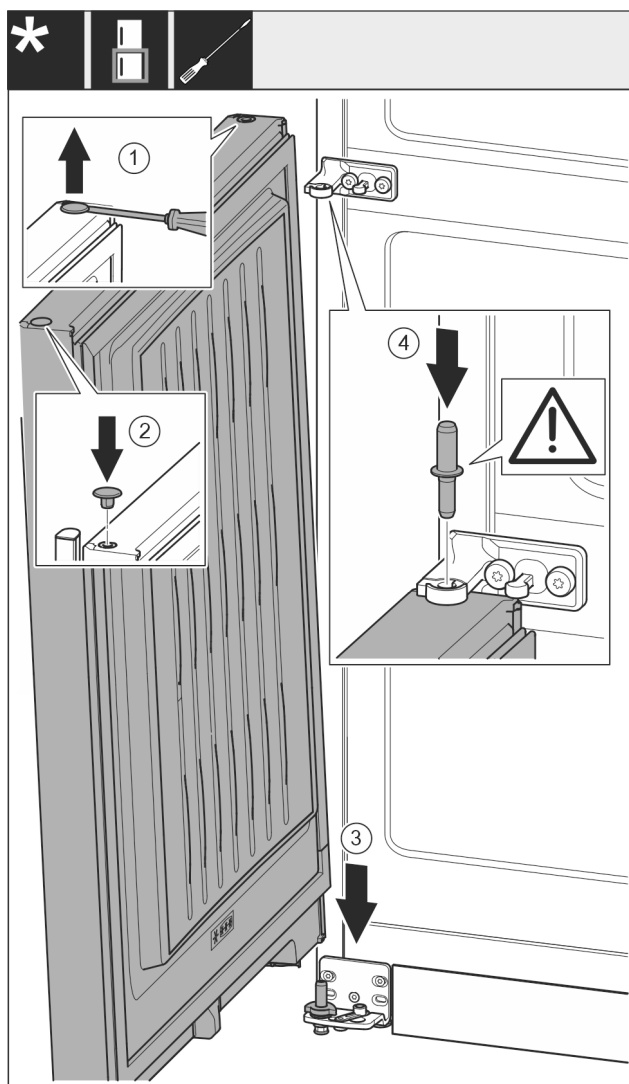

Fig. 19
- Carefully lift up the plugs with a slotted screwdriver and pull them out. Fig. 19 (1)
- Insert the plugs again on the other side of the door. Fig. 19 (2)
- Position the door from above onto the lower bearing pins. Fig. 19 (3)
- Insert the center bearing pin through the center bearing bracket into the bottom door. Make sure that the latching lug is pointing to the rear. Fig. 19 (4)